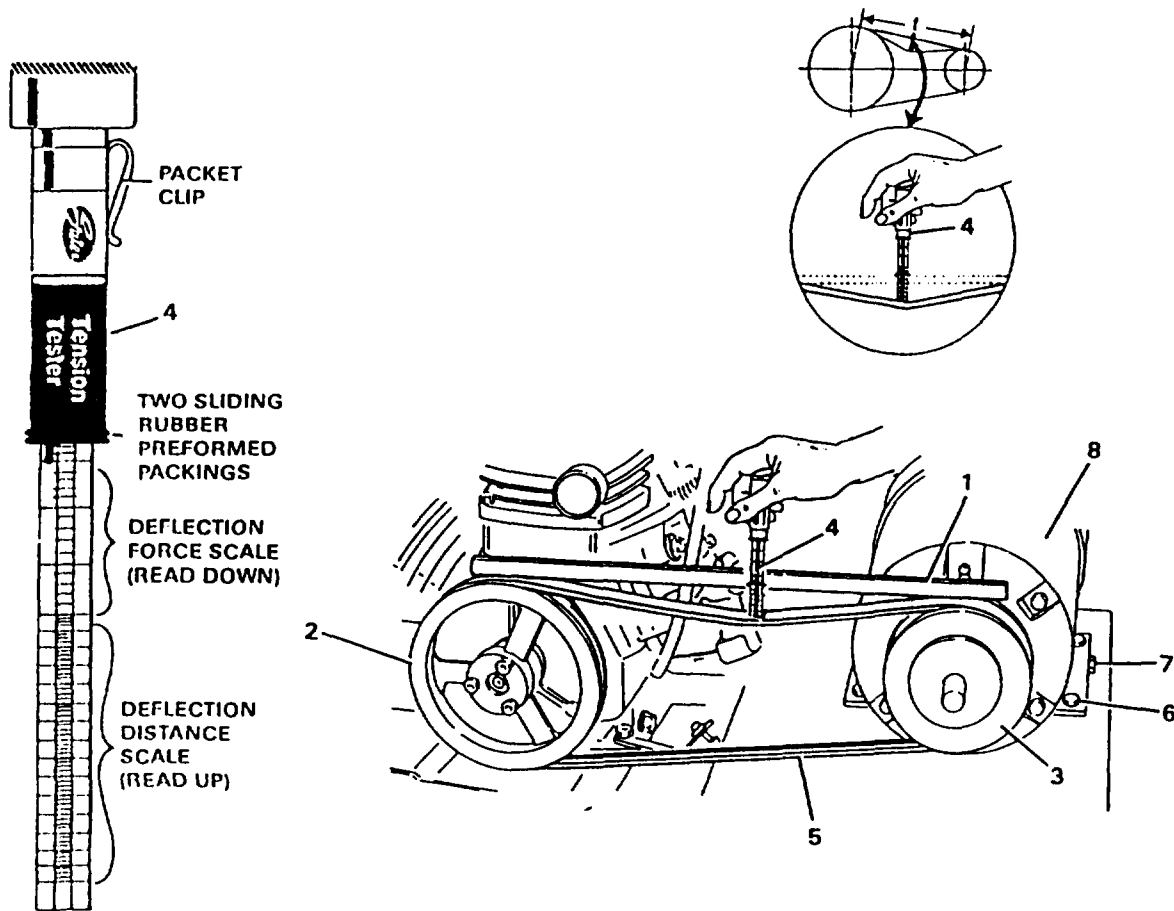

Figure 4-91. Air Compressor Drive Belt Adjustment
- (4) Refer to Figure 4-91 and place the straightedge (1) between sheaves (2 and 3) as shown.
(5) Reset the top preformed packing (there are two preformed packings) on belt tension gage (4) so that it butts up against the bottom of the handle.
(6) Set the lower preformed packing on the (deflection) scale to 5/16 inch (0.79 cm).
(7) Place gage (4) in the center of belt (5) and press on the gage until the belt is deflected downward 5/16 inch. This can be judged by noting when the lower preformed packing on the gage lines up with the lower edge of the straightedge.
(8) Remove the gage and read the top (force) scale just beneath the upper preformed packing. The number beneath the upper preformed packing is the force in pounds which was required to deflect the belt 5/16 inch. The force should be between 3.7 and 5.4 ft-lbs.
(9) If drive belt tension is not between 3.7 and 5.4 ft-lbs. loosen four nuts (6) to allow the air compressor drive motor (8) to be moved.
(10) Turn jackscrew (7) clockwise (to the right) to tighten the drive belt. Turn counterclockwise (left) to loosen the drive belt.